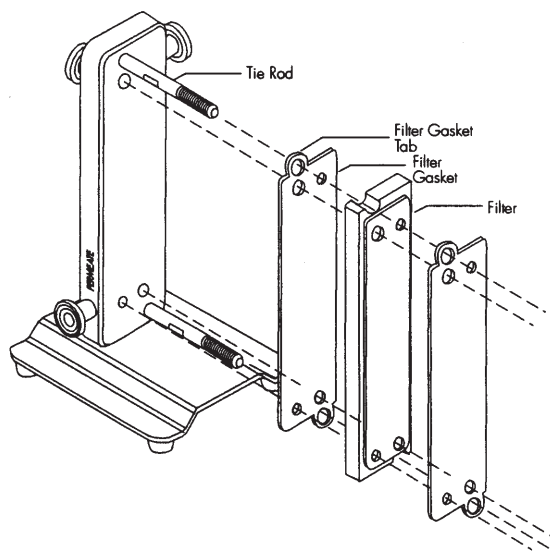

Figure 8: Inserting the Filter Gaskets and Filter
2. Holding the manifold with one hand, slide the filter gasket (Pellicon 2 Cassettes only) tabs over the tie rods and press the filter gasket against the manifold, as shown in Figure 8.
- Align the filter cut-outs with the tie rods, and insert the filter so it is parallel with the manifold as, shown in Figure 8.
- Holding the manifold with one hand, slide the filter gasket (Pellicon 2 Cassettes only) tabs over the tie rods and press the filter gasket (Pellicon 2 Cassettes only) against the filter, as shown in Figure 8.
- Holding the manifold gaskets (Pellicon 2 Cassettes only) and filter(s) in place with one hand, slide the end plate holes over the tie rods, as shown in Figure 8, and press the end plate against the filter.
- Place one washer and one nut on each tie rod, as shown in Figure 8, and hand tighten.